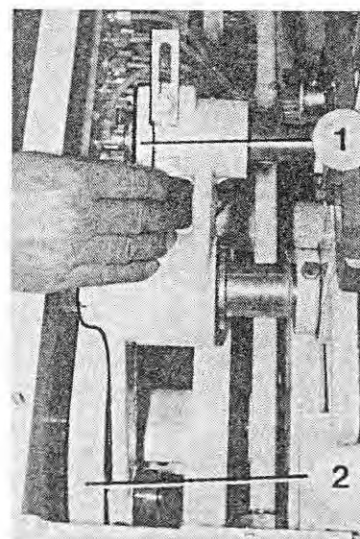

Fig. 172
3. Crank the machine by hand until the cam roller is on the highest point of the curve. Push the drive lever (Figure 172/1) to the appropriate dosing cam (Figure 172/2) and engage the appropriate cam roller.